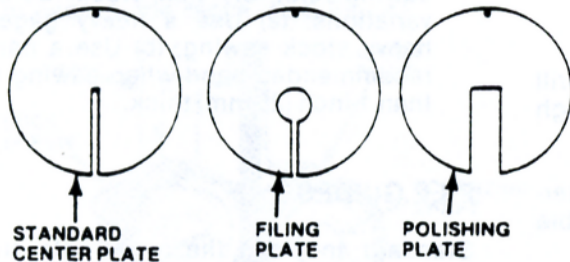

FIG. 47. STANDARD TABLE CENTER, FILING & POLISHING PLATES.
- (3) Install upper file guide and lock it firmly to post with knurled thumb screws. Insert special filing center plate. See Fig. 47.